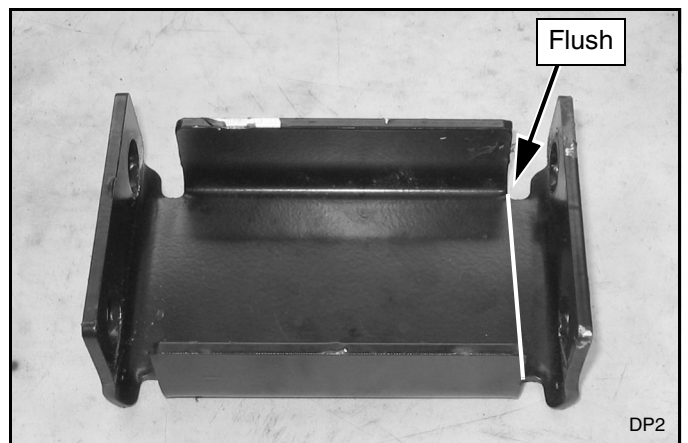

Figure 3. Remove Flange
6. With spacer removed, cut bottom flange off of spacers. Spacer will be reused when sub-frame is installed. Make sure cut is flush with side flanges. See Figure 3.